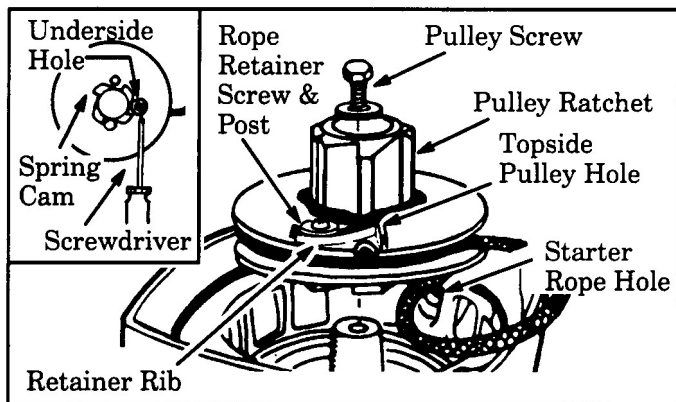

Figure 40
7. Remove the pulley screw in the center of the pulley. Figure 40.
9. Remove the rope retainer screw and remove any remaining rope. Figure 40.
12. Feed the rope through the round starter rope hole in the fan housing. Figure 40.
13. Guide the rope inside the pulley, then up through the pulley ratchet side of the pulley hole to the outside by pushing the rope through from the hole on the spring cam side with a small Phillips screwdriver. Figure 40 (inset).
14. Wrap rope counterclockwise around the pulley ratchet and tuck loose end back under rope leaving a 1 inch tail between the retainer rib and screw post. Figure 40. Pull rope tightly.